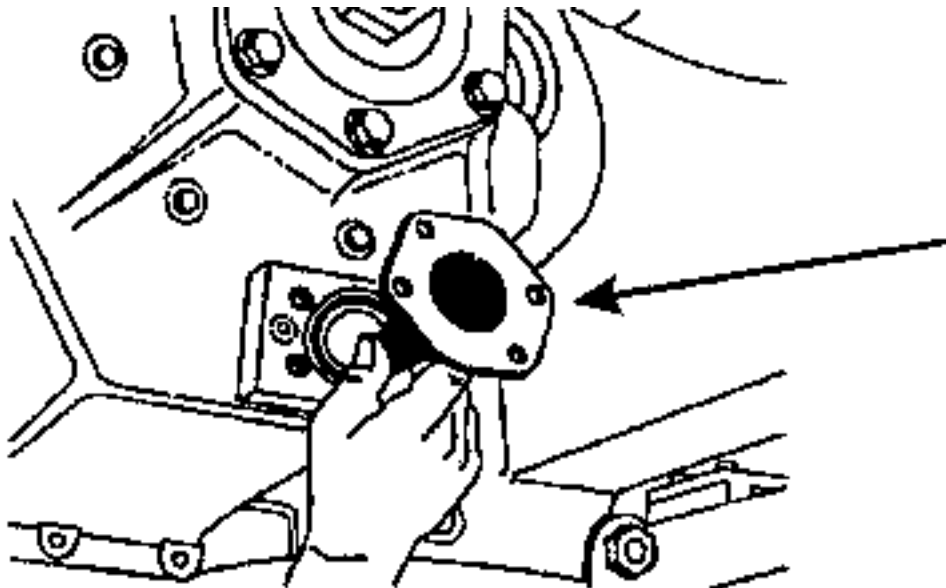

Fig. 5.49. Transmission Scavenger Oil Strainer
5.18.5. SERVICING THE TRANSMISSION SCAVENGER STRAINER (Fig. 5.49)